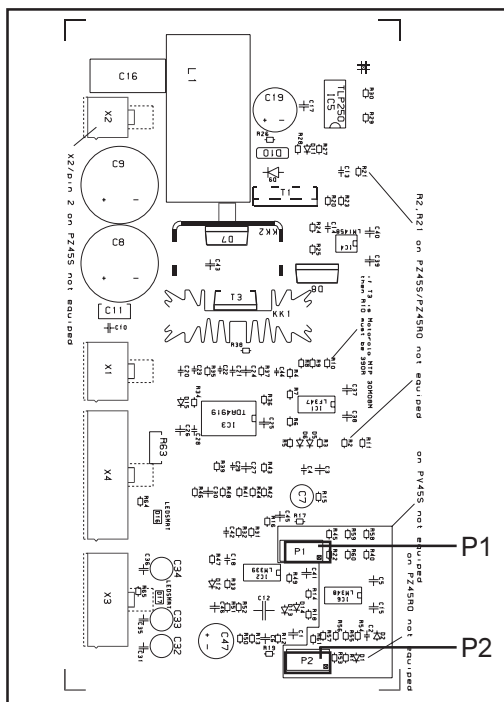

Fig.5 Pc board PZ45RO
- Correction possible with P2 on pc board PZ 45RO - Fig.5
- Correction possible with P1 on pc board PZ 45RO - Fig.5